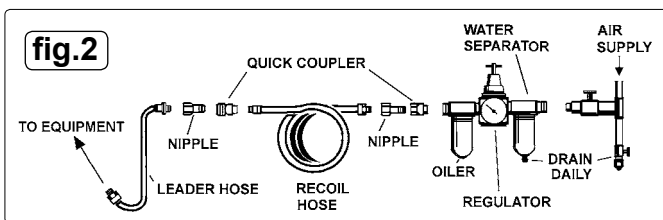

fig.2
- 5.6. Keep the air hose between the compressor and the air jack as short as possible, and install an air filter and oiler (fig.2).